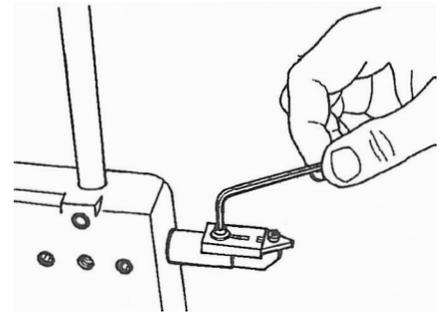

Fig. B-2
2. Loosen the cutter guide's cap screw (53) with a 7/64" Allen wrench, as shown in Fig. B-2, and slide the guide (55) away from the cutter.